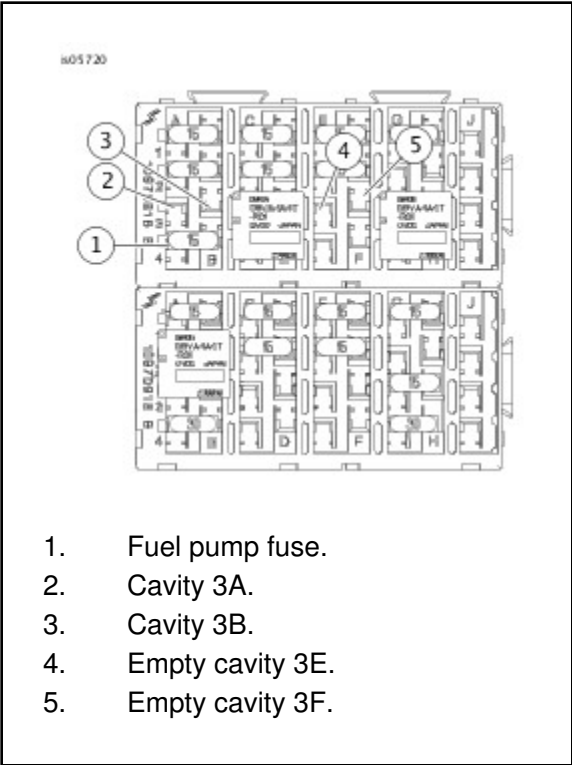

Figure 4. Fuse Block (2008-Earlier Models Shown)
3. See **Figure 4**. Remove fuel pump fuse (1) from fuse block.
- a. Remove exhaust control fuse from cavities 3A (2) and 3B (3).
- d. Install exhaust control fuse into cavities 3E (4) and 3F (5).
9. See **Figure 4**. Install original fuel pump fuse and install fuse provided in kit to new circuit in fuse block cavities 3A and 3B.